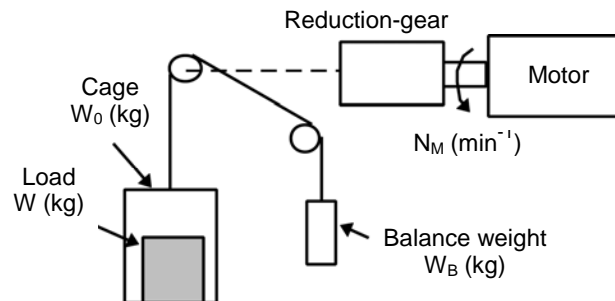

Figure 3.8 Vertical Lift Load
A simplified mechanical configuration is assumed as shown in Figure 3.8. If the mass of the cage is W_0 (kg), the load is W (kg), and the balance weight is W_B (kg), then the forces F (N) required for lifting the load up and down are expressed as follows:
The moment of inertia J ($\text{kg} \cdot \text{m}^2$) of the loads connected with a rope as shown in Figures 3.8 and 3.9 is calculated with the following equation using the mass of all moving objects, although the motion directions of those loads are different.